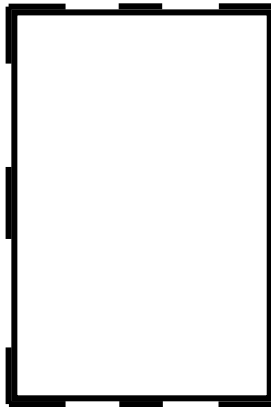

Figure 1
- Six-inch strips of secondary silicone sealant nominally spaced (one for every 3 ft. of perimeter dimension) on each straight side as shown in Figure 1, below is additionally recommended. This construction requires a post-compression inset of 0.15” to 3/16” in depth.